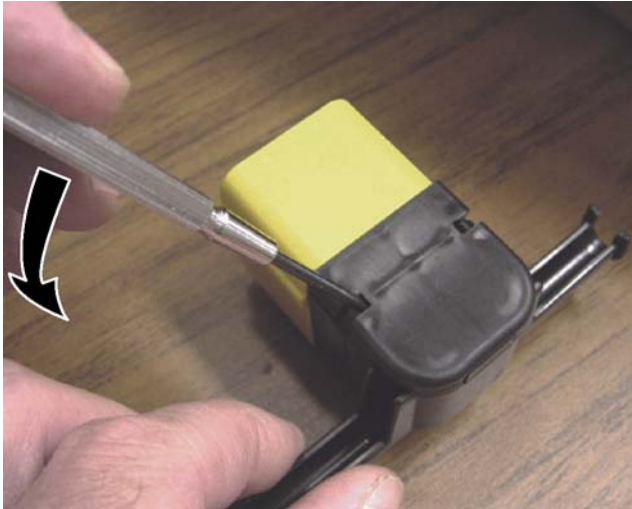

Figure 8
3. Position a jewelers' screwdriver (flat-blade 2.0 or 2.4 mm screwdriver) into the slot in the flap. The tip should be placed between the flap and the latch finger. See Figure 8.